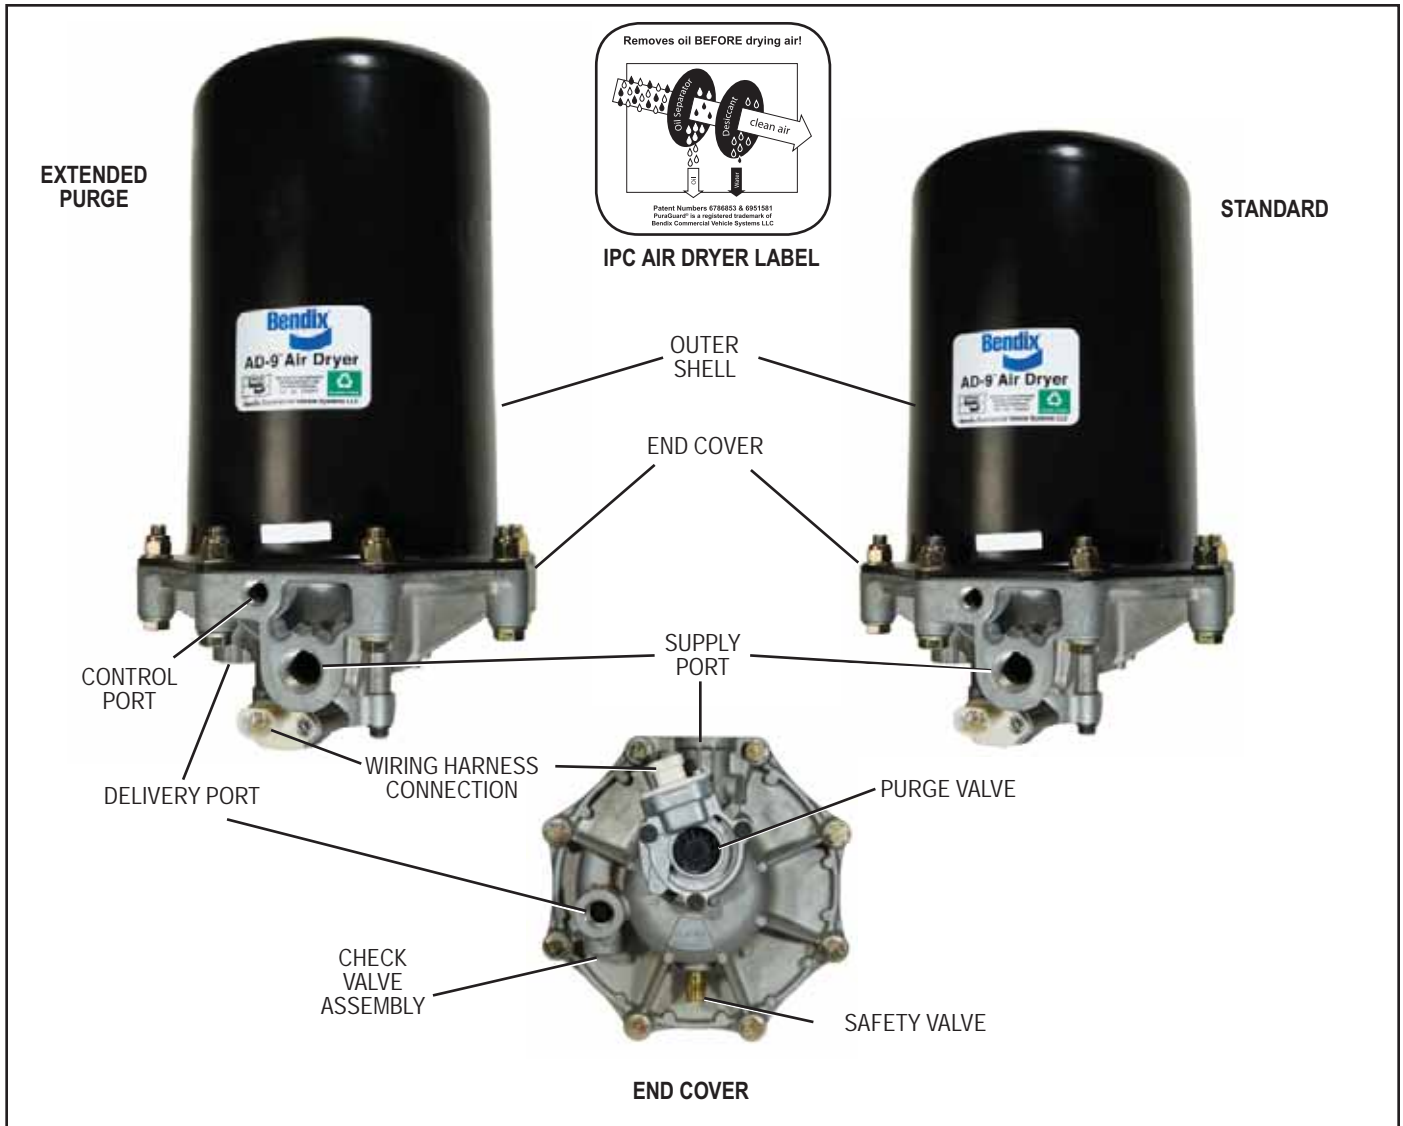

FIGURE 1 - BENDIX® AD-9® AND AD-9® IPC AIR DRYER MODELS
The AD-9 IPC air dryer appears identical to the standard AD-9 air dryer, but contains a coalescing media at the inlet of the desiccant bed. This coalescing media provides a higher level of oil removal over the standard AD-9 air dryer. The AD-9 IPC air dryer has all the same functions of the standard AD-9 air dryer, and is used where oil is contaminating downstream components. The Bendix AD-9 IPC air dryer can be identified by the IPC label (shown in Figure 1), located on the air dryer housing.
3. Identify and disconnect the three air lines from the end cover and note the position of end cover ports relative to the vehicle. See Figure 1.